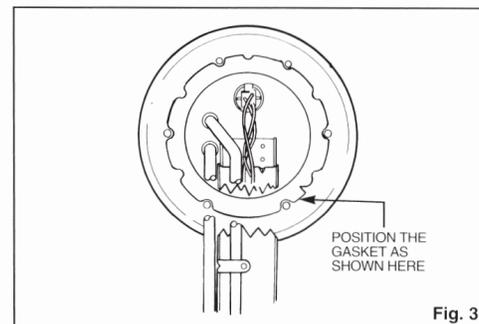

Fig. 3
B) Prior to removing the protective adhesive covering on the new fuel tank gasket, determine the correct position to install the gasket (see Fig. 3) and mark it. Remove the adhesive covering and carefully maintaining proper alignment install the new fuel tank gasket onto the pump bracket.